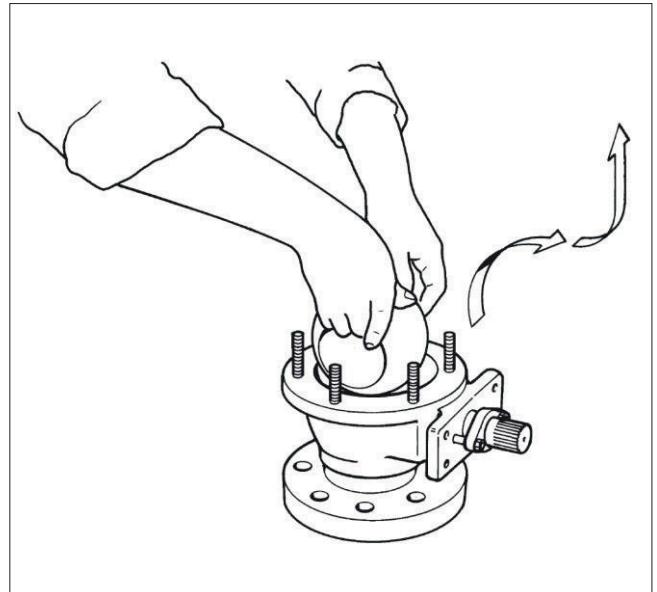

Figure 15. Removing the Ball
- Lift the ball (4) from the body (1) by gripping by the flow bore (small sizes) or by passing a rope through the flow bore and turning it at the same time around the flow bore axis. Handle the ball carefully and place it on a soft surface. (Fig. 15).